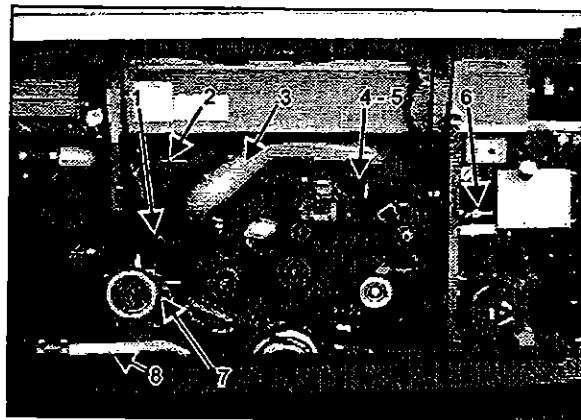

Figure 15
6. Disconnect and remove the engine air intake duct mounted between air cleaner housing and turbocharger inlet (3, Fig 15).
7. Disconnect and remove the air intake duct mounted between the air cooler outlet and the intake engine (2, Fig. 15).
8. Disconnect and remove section of coolant pipe assembly mounted between the radiator outlet and the water pump inlet (8, Fig. 15).
11. Dismantle the air bellow of the upper bracket tensioner for the fan drive assembly. Remove the upper bracket (7, Fig. 15).
22. Disconnect the engine oil pressure steel-braided hose from the mechanical oil pressure gauge and the cable of the gauge water temperature (4 and 5, Fig. 15).